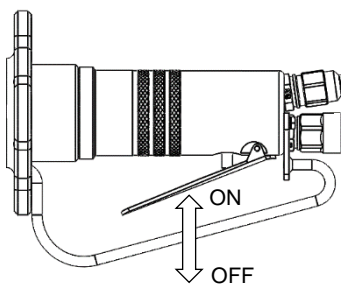

Fig. 6.1 – One-hand switching on/off (Z079, Z100)
- One-hand operation: Operate the valve lever with the switching handle, see *Figs. 6.1, 6.2*, to close the knives (On)!
- One-hand operation: Release the valve lever with switching handle, see *Figs. 6.1, 6.2*, to open the knives (Off)!